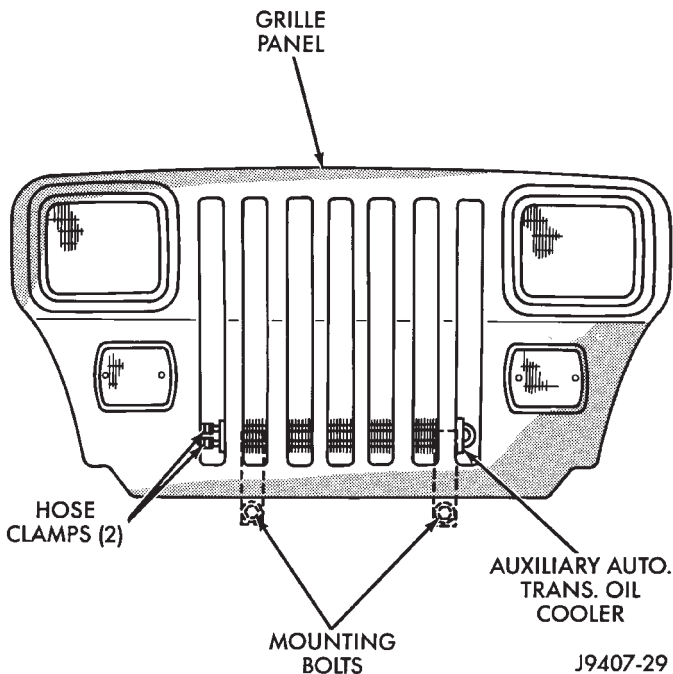

Fig. 42 Auxiliary Air-To-Oil Cooler—YJ Models
On XJ and YJ models, the cooler is located in front of the radiator or A/C condenser (if equipped) and behind the grill (Figs. 42 or 43). It is mounted to the front frame crossmember.
- (1) Remove the grill. Refer to Group 23, Body.
- (2) Place a drain pan below the transmission oil cooler.
- (3) Remove the two hose clamps at oil cooler inlet and outlet tubes (Fig. 42).
- (4) Remove the two oil cooler mounting bolts (Fig. 42).
- (5) Remove the oil cooler from vehicle.
- (6) Reverse the preceding operation for installation. Tighten the two clamps 2 N·m (15 in. lbs.) torque.